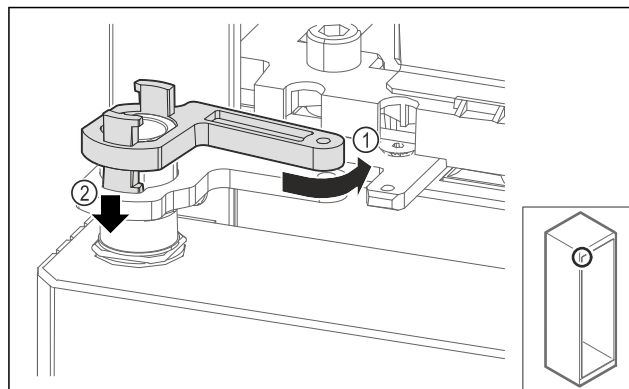

Fig. 66
- ▶ Turn the swap bearing block lock back slightly Fig. 66 (1), press it down Fig. 66 (2) and lock it at the hinge bracket.